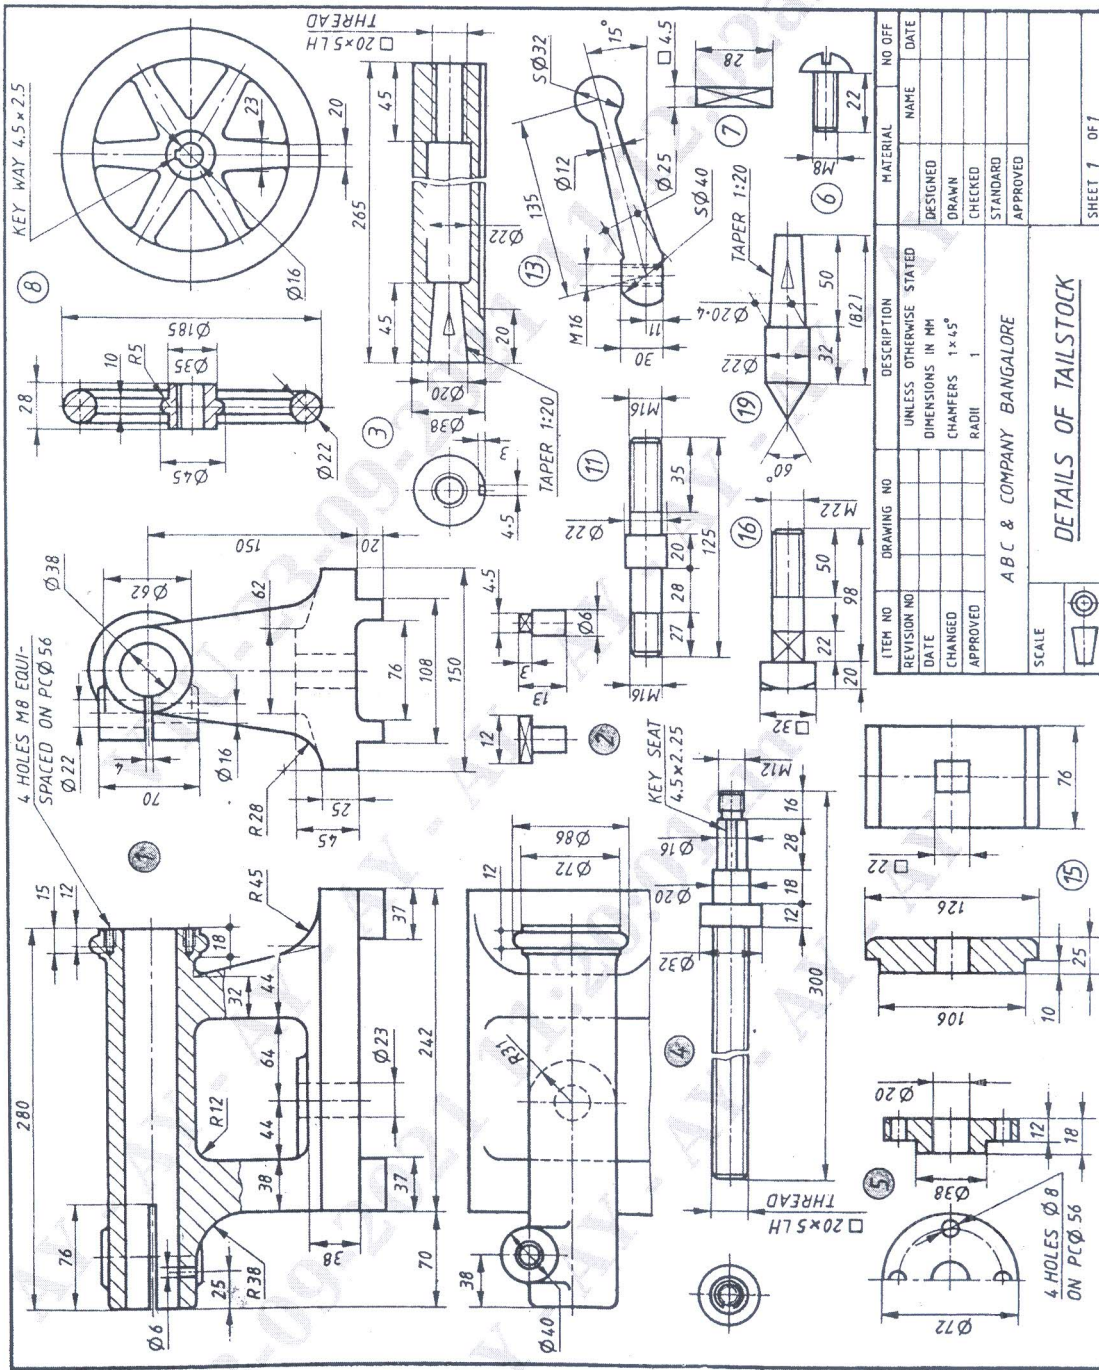

Figure 2: Details of tailstock.
6. Figure 2 shows the part drawing of a tail stock. Assemble the tail stock and show the following views.